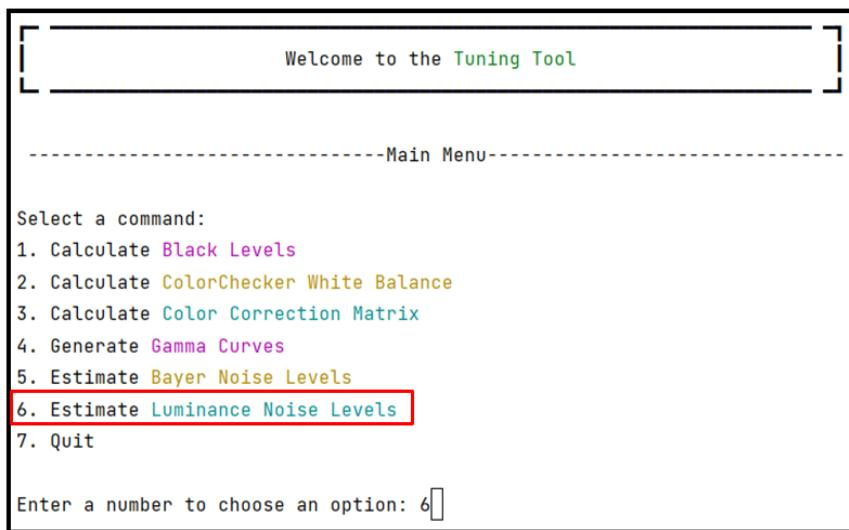

Figure 29: Selection of LNE module from the main menu
- Choose 6 to select the Luminance Noise Estimation module from the main menu as in Figure 29.